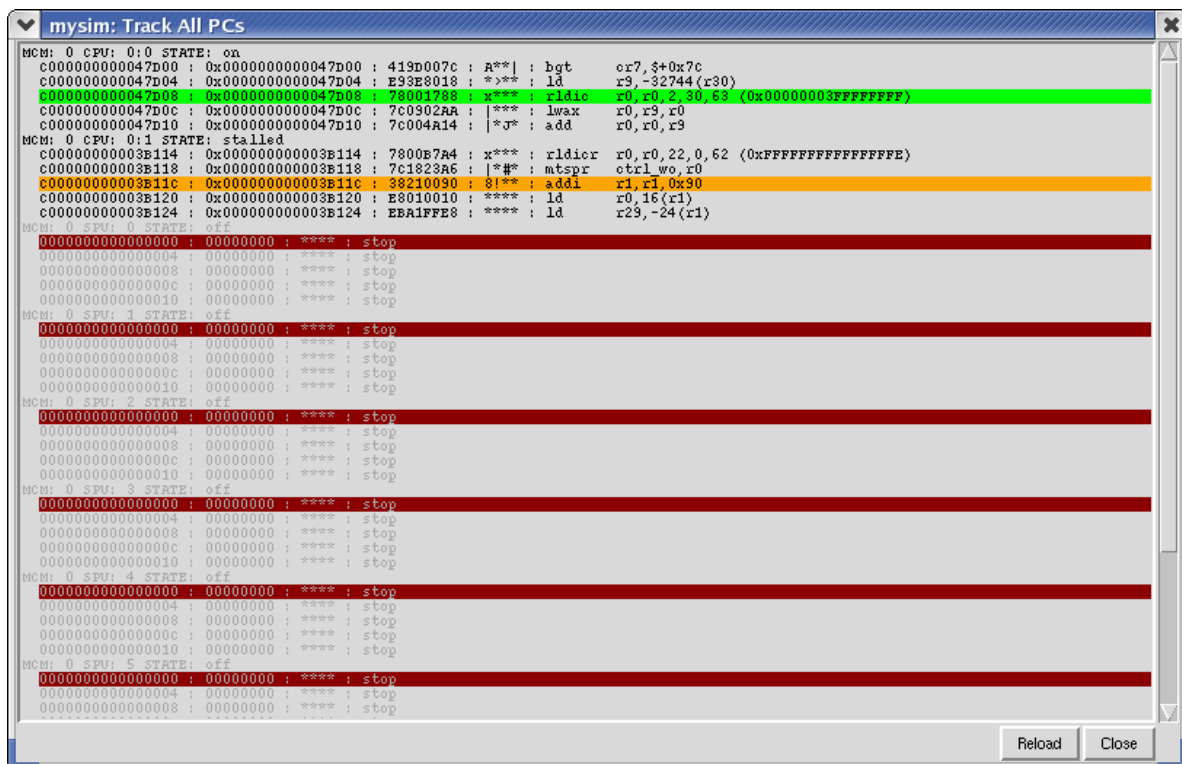

Figure 2-22. Track All PCs Window
- **Track All PCs**—Provides a limited version of the PC tracker that shows the current execution location of all SPUs and PPU’s for each MCM in the system. If SMP mode is enabled, the Track All PCs window displays SPU and PPU state for both MCMs. Figure 2-22 shows the **Track All PCs** window.